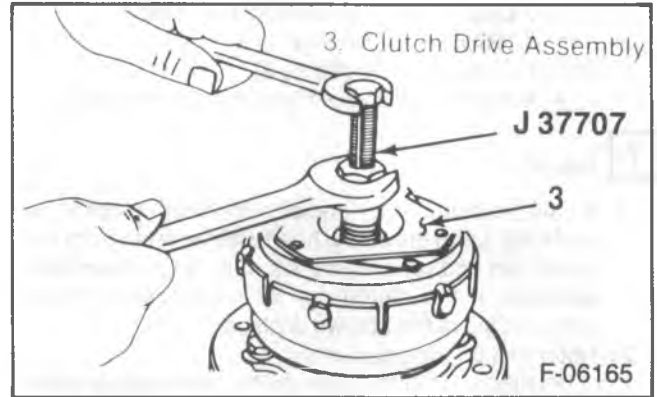

Figure 7—Clutch Plate and Hub Removal
2. Clutch drive hub (figure 7).